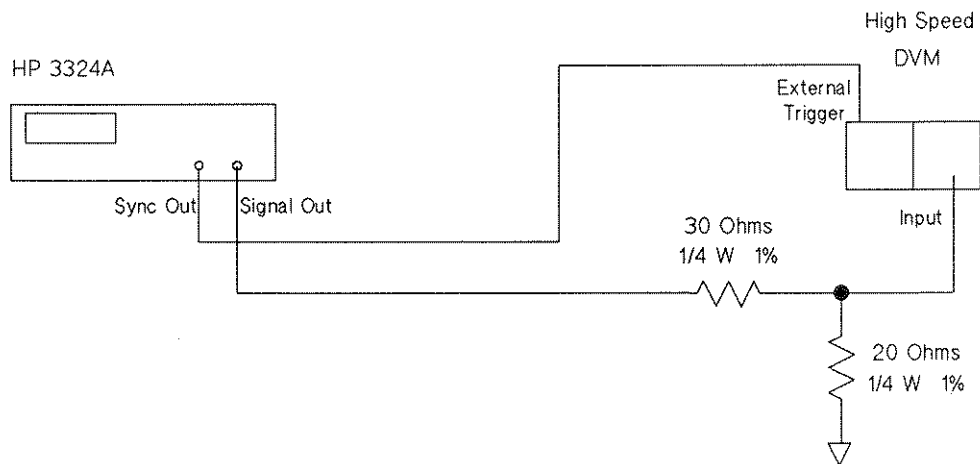

Figure 12-9. Triangle Linearity Test Set-Up
1. Connect the HP 3324A and the high-speed voltmeter through the divider as shown in Figure 12-9.
4. Set the voltmeter delay to 0.00003 (seconds). Record the voltmeter reading on the Performance Test Record under *Positive Slope Measurement, (10%)y1*. This is the 10% point on the positive slope of the triangle (see Figure 12-9).
6. The reset portion should show more than one line, as in Figure 12-9. The lines should not be separated by more than five divisions on the display.